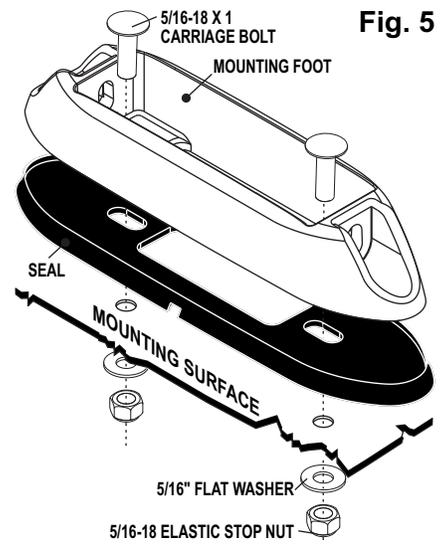

Fig. 5
10. Firmly secure both mounting feet (with rubber seals) to the vehicle using the supplied hardware (Fig. 5).